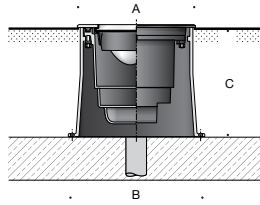

Figure 1: Mounting
1. Position back housing on the stable foundation; anchor using hardware (by others). [Figure 1]
2. Finished surface must be level with or slightly below the upper edge of the recessed housing to guarantee a proper seal of the luminaire faceplate. [Figure 1] [Figure 2]